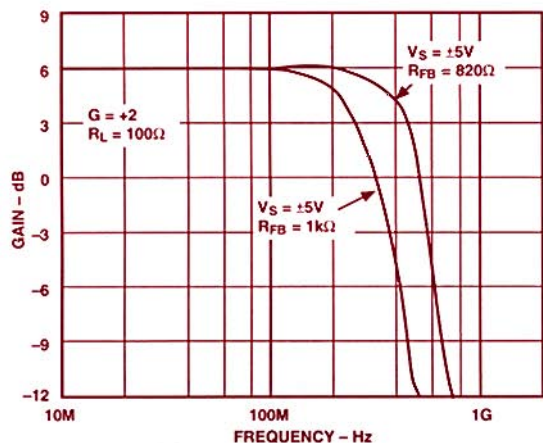

Figure 1. Frequency response of the AD8001 at gain of +2 V/V with 100-ohm load.
**Wide bandwidth:** Figure 1 is a plot of the device's small-signal frequency response at a gain of +2, while driving a 100- $\Omega$  load. At gain of +1, with  $R_{FB} = 1$  k $\Omega$ , the  $-3$ -dB bandwidth is 650 MHz minimum, 880 typical, with  $<1$ -dB peaking (DIP). It will maintain 0.1-dB flatness to 100 MHz minimum at a gain of +2 (SOIC). These characteristics are useful in video and RF—as well as general high-speed—applications.